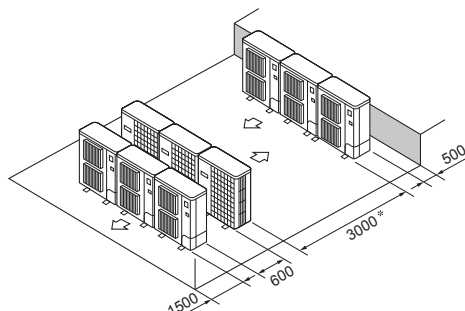

Fig. 2-14
- ⑥ Multiple parallel unit arrangement (Fig. 2-14)